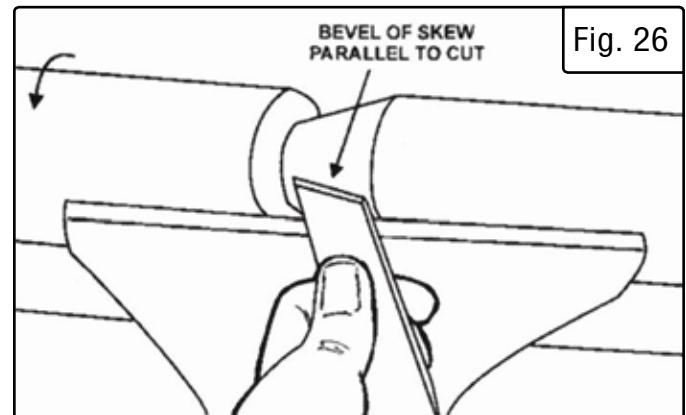

Fig. 26
**V-GROOVES** (Fig. 26) - Use the point of the skew to create a V-groove in the workpiece. Lightly mark the center of the V with the top of the skew. Move the point of the skew to the right half of the desired width of your cut. With the bevel parallel to the right side of the cut, raise the handle and push the tool in to the desired depth. Repeat from the left side. The two cuts should meet at the bottom and leave a clean V-groove. Additional cuts may be taken to add to either the depth or the width of the cut.